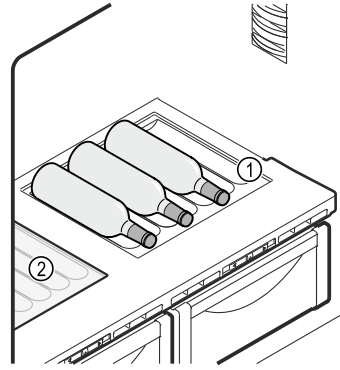

Fig. 189 Example illustration
- ▶ Insert the glass shelf Fig. 189 (2) under the variable bottle rack.